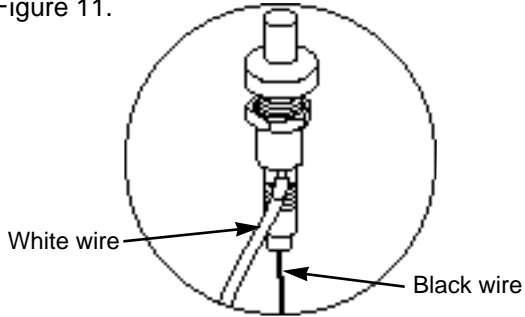

Figure 11
7. Disconnect white and black wire from each igniter. Figure 11.